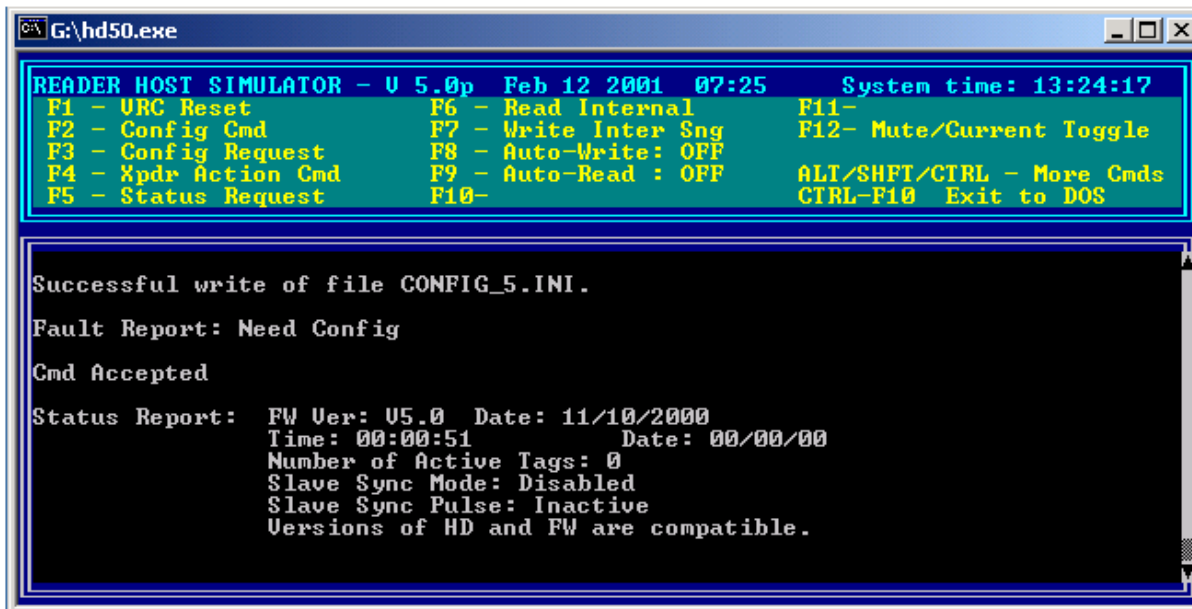

Figure 5-Successful Reader Status Report Received by HD 5.0
- Communication between the Reader and HD can be checked by pressing <F5> from within HD. This will request the Reader to send a status report to HD. A successfully received status report is shown in Figure 5.